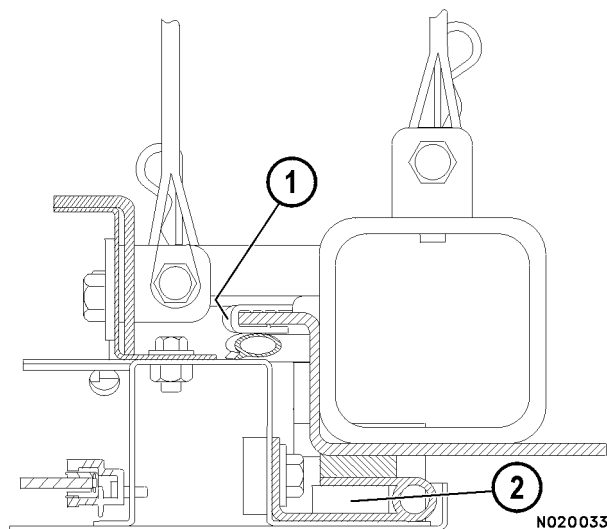

FIGURE 2-18.
4. Door hinge seal (2, Figure 2-18) is glued to the hinge. Use the same procedure as above for this seal.